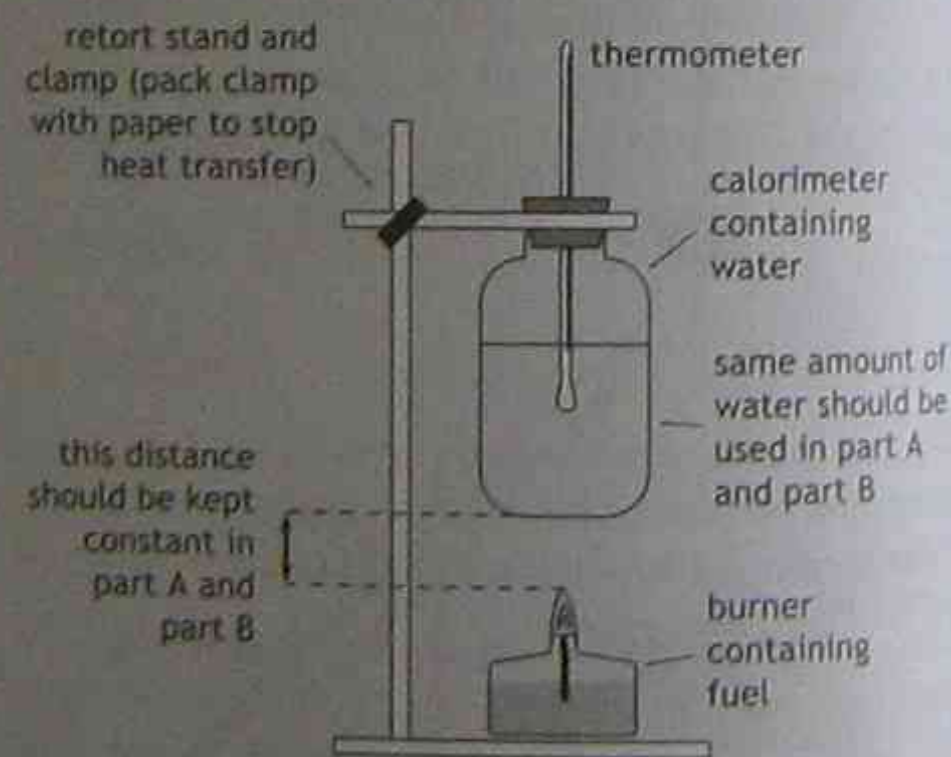

Figure 1.18 Calorimeter
3. Set up apparatus as in Figure 1.18.